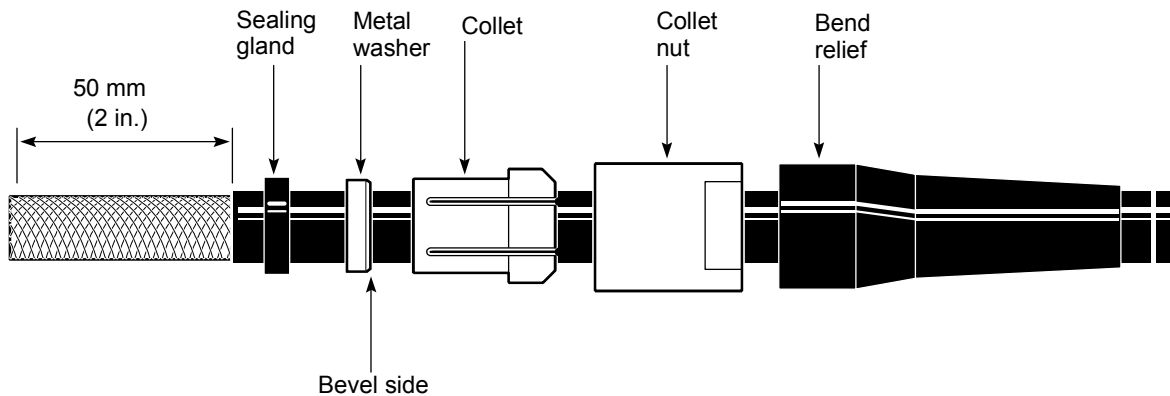

Figure 46 – LEMO connector installation
3. Slide the bend relief, collet nut, collet, metal washer and sealing gland on to the cable jacket; see *Figure 46*. Ensure that: